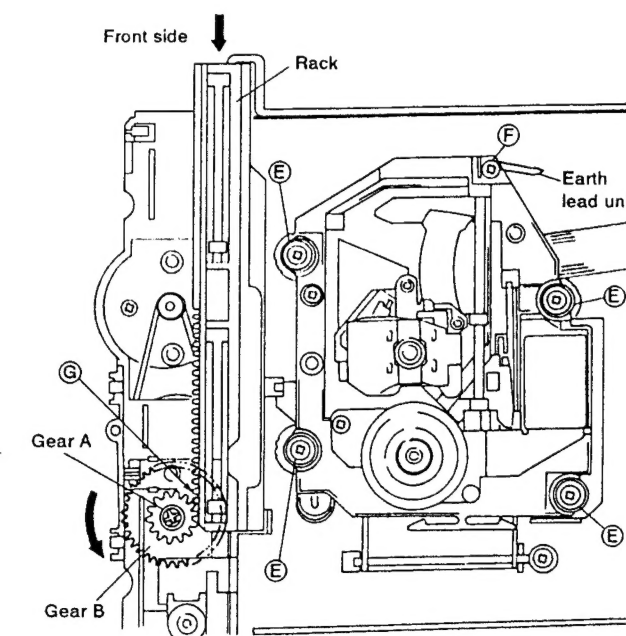

Fig. 2-3
- ① Remove the tray. (Refer to the "REMOVING THE TRAY".)
- ② Remove the four screws ① and one screw ② with the servo mechanism assembly lowered (to the tray-open position) (Fig. 2-3).
- ③ To move the rack by hand, gear A and the gear section of the rack must be engaged at section ③ (see Fig. 2-3). Otherwise, the rack may not move. In this case, move gear B with a ⊖ screwdriver from the side and fit gear B and the gear section of the rack at the engaging section ③.